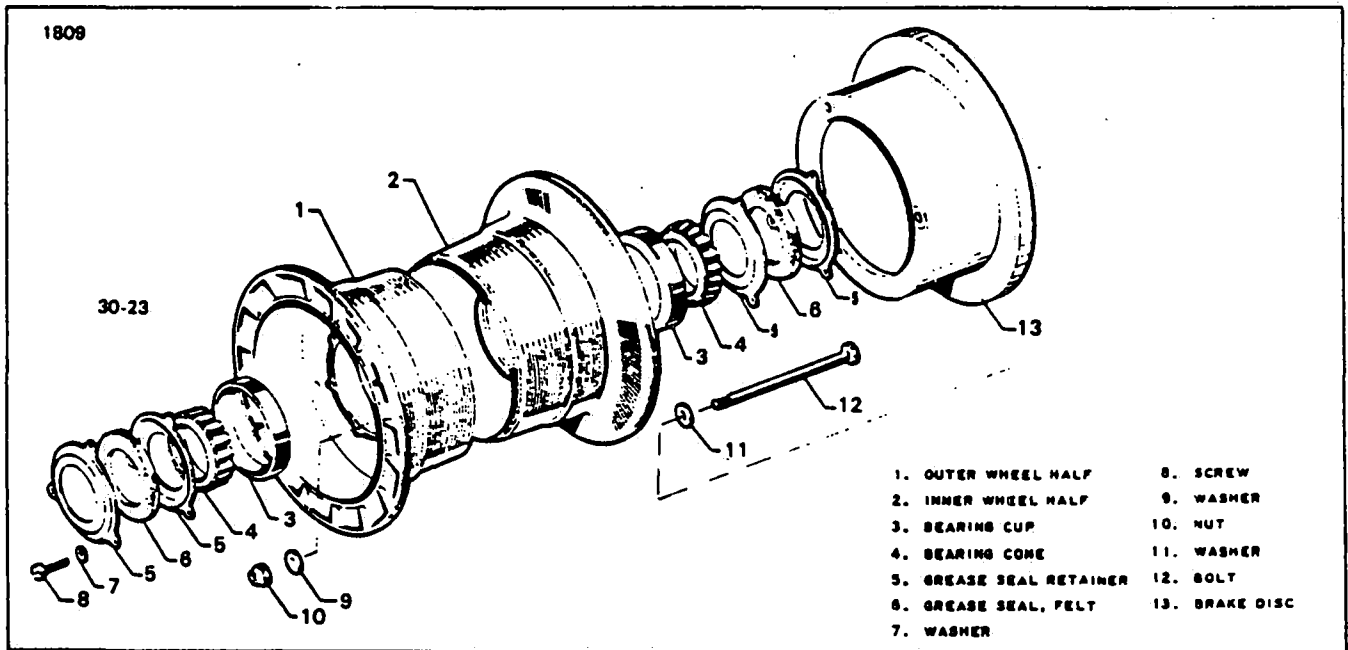

Figure 7-20. Main Wheel Assembly, Serial Nos. 30-2 to 30-845 Incl.
- c. On airplanes with Serial Nos. 30-2 to 30-845 inclusive, remove and disassemble the wheel as follows (Refer to Figure 7-20.):
- (a) Deflate the tire and remove the grease seal retainer (5) by removing the attaching screw (8).
- (b) Remove the bearing cones (4).
- (c) Remove the bolts (12) securing the wheel halves together.
- (d) The bearing cups (3) should be removed only for replacement and may be removed by tapping evenly from the inside.